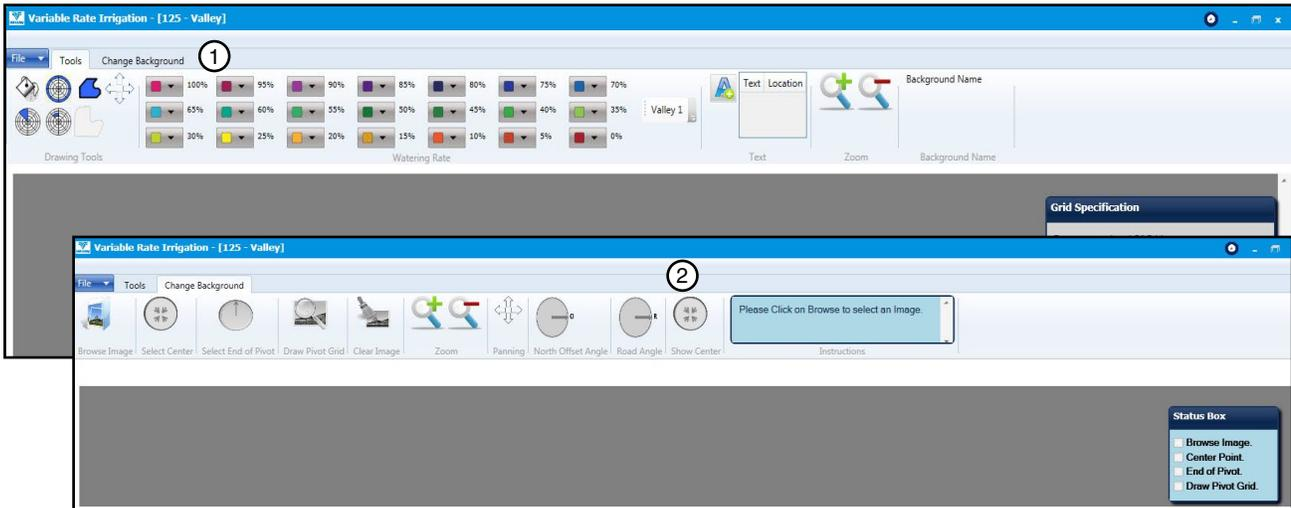

Figure 12-1 1. Change Background Tab
1. Click the **Change Background** tab on the Variable Rate Irrigation screen. See Figure 12-1.